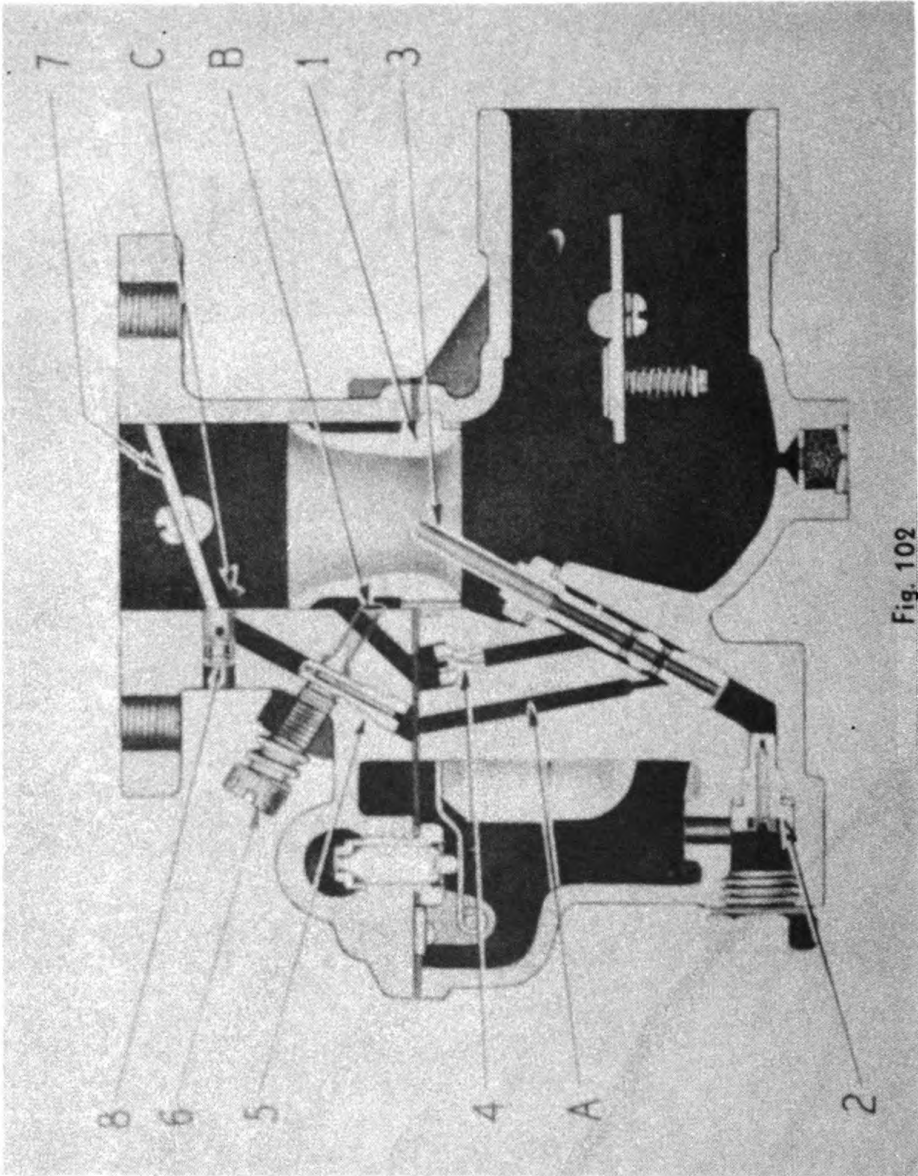

Fig. 102
**GENERAL DESCRIPTION**—(Fig. 102) shows the construction of the Zenith 161 Series carburetor.
To properly repair Zenith 161 Series Carburetors we suggest the following routine: (Fig. 102)
2. Install air shutter plate screws and lockwashers. Be sure air shutter valve is in correct position as shown in (Fig. 102) and that the air shutter plate is properly centered before tightening the screws securely.